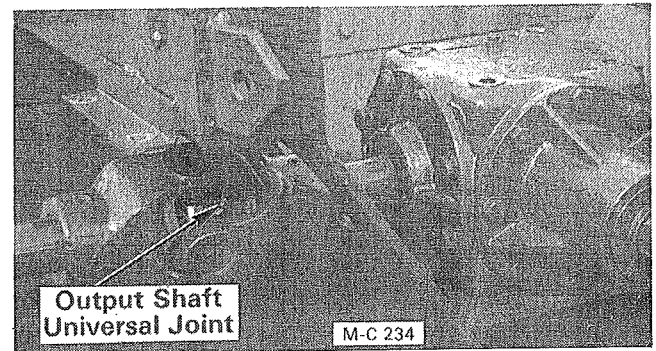

Figure 23 - Two on Model 2408
4. Output shaft universal joint, see Figure 23, located under the output shaft guard.